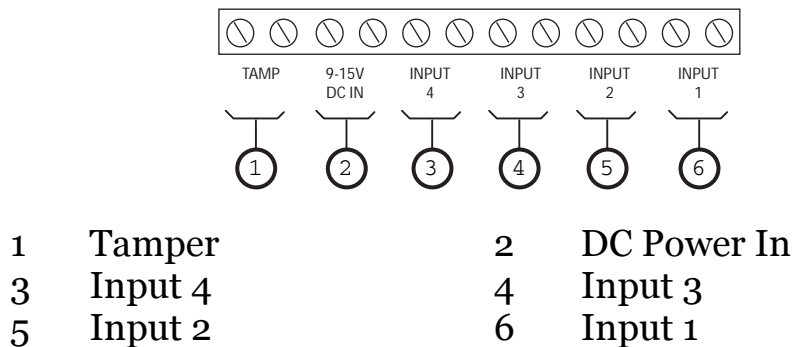

Figure 3. PCB Main Connector.
1. Fit the battery or DC supply (see Figure 3).